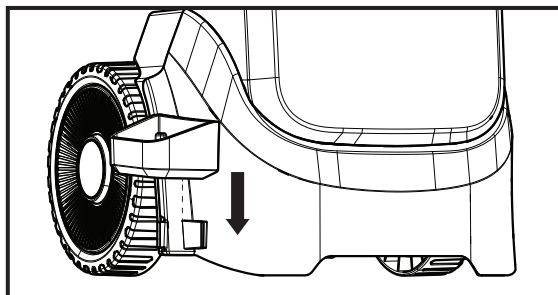

Fig. 2b
3. Press down to align with the U-shaped groove at the bottom of the housing. (Fig. 2b)